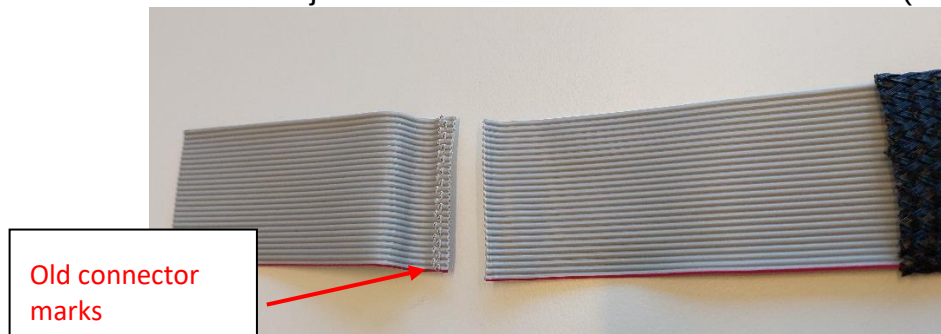

Figure 40. Cut flat cable.
6) Cut the flat cable in the just below the marks of the old connector (See figure 40).